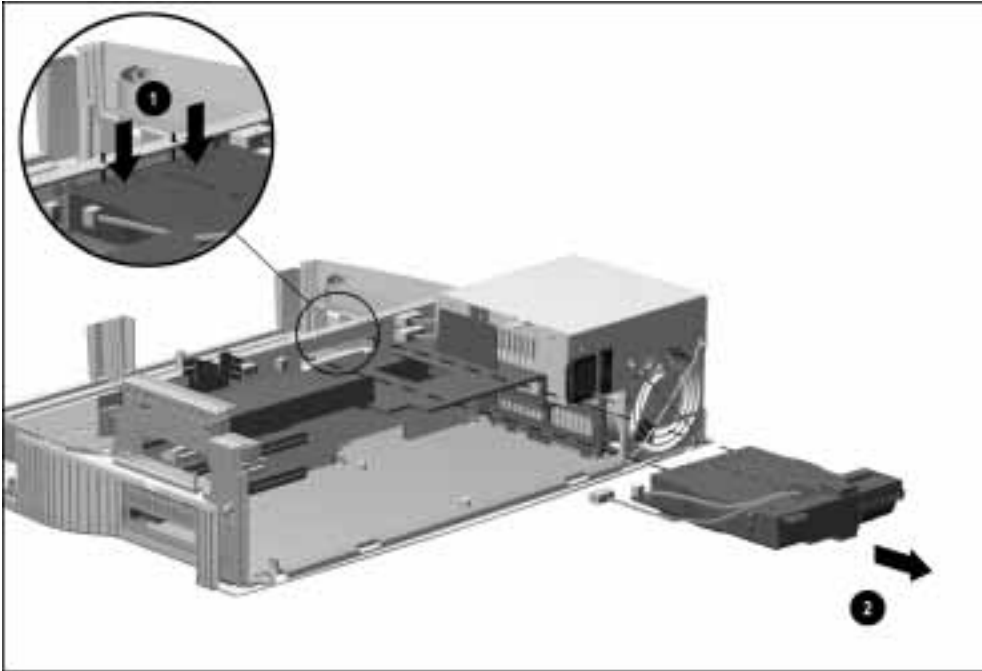

Figure 5-52. *Removing the Mechanism Assembly*
9. Remove the mechanism assembly by pressing down on the two square tabs on the mechanism assembly cover ❶ and pulling the assembly out of the backplane assembly ❷ (Figure 5-52).